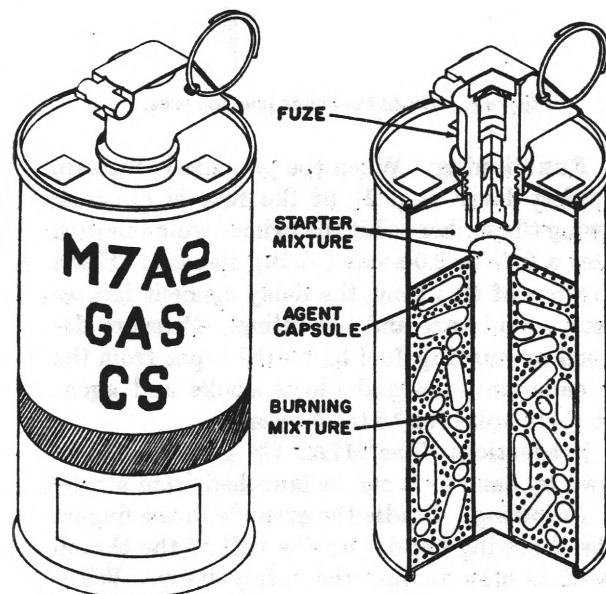

Figure 1. M7A2 CS tear hand grenade.
3. **Description.** The M7A2 CS tear hand grenade (fig. 1) is a cylindrical container filled with approximately 9½ ounces of fuel-agent mixture. The agent is dispersed through four holes in the container by the pressure built up when the fuel burns.
ner as to leave a tapered channel through the filling, as shown in figure 1. The bottom of this channel coincides with the emission hole in the bottom of the grenade body. The top surface of the filling and the tapered walls of the hole are coated with starter mixture to insure ignition of the fuel by the fuze.
6. Marking and Packing. a. The body of the M7A2 CS grenade is painted gray, and all markings are red. One band completely encircles the grenade. The grenade is stencilled as shown in figure 1: Nomenclature appears above the band and manufacturer's name and lot number below.